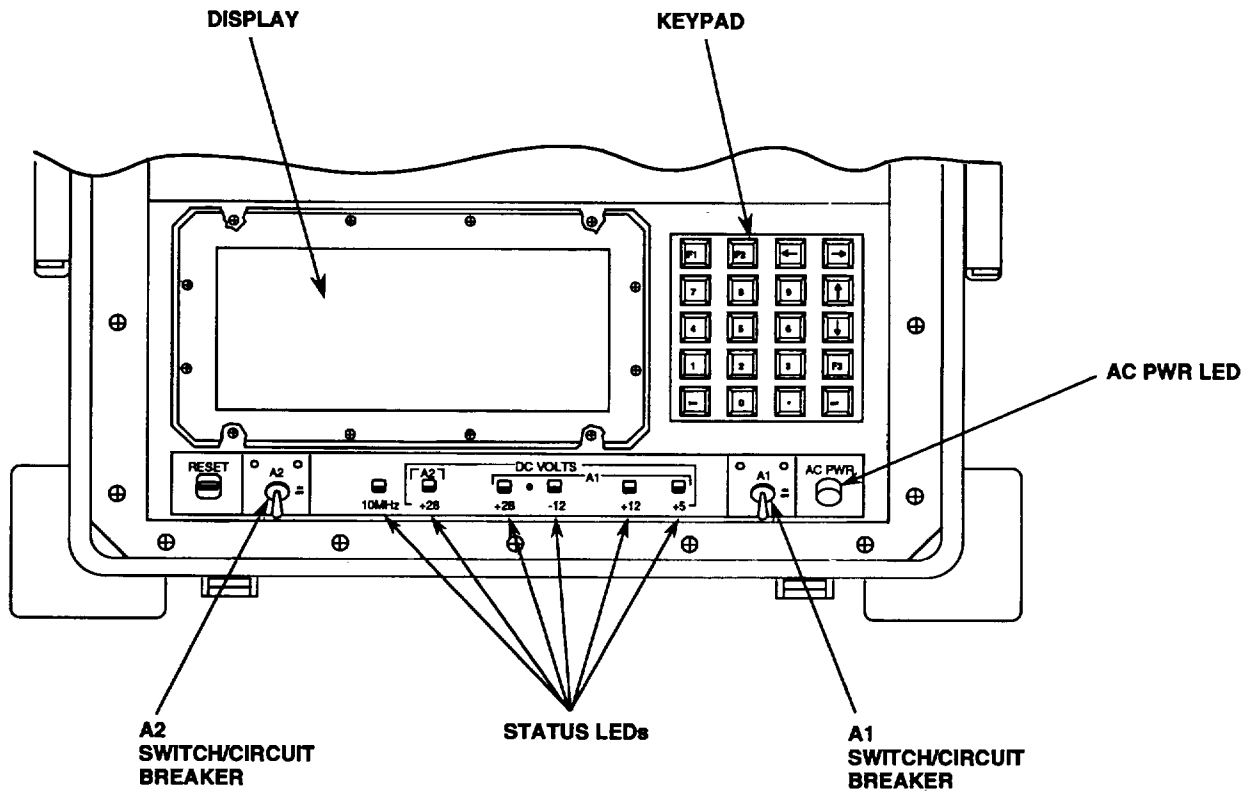
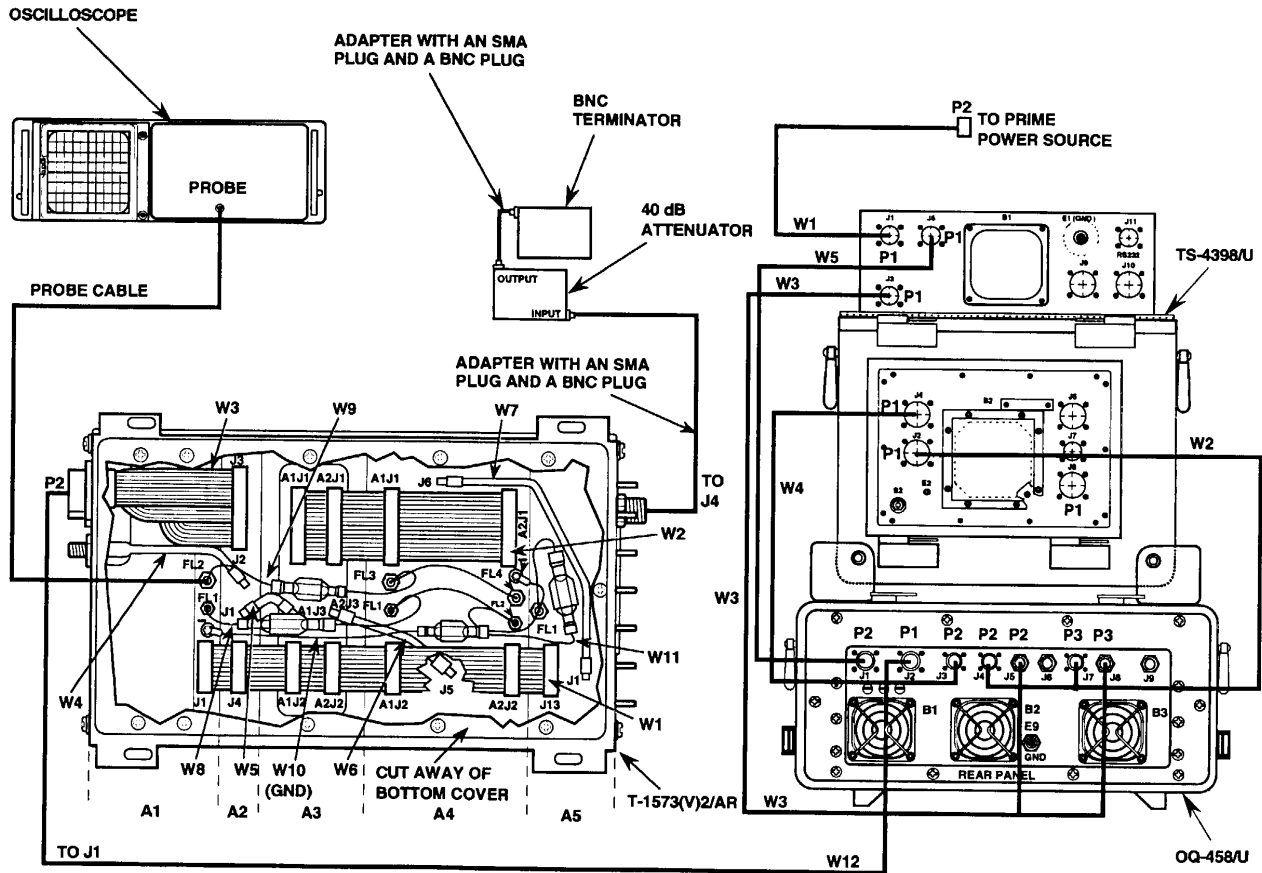
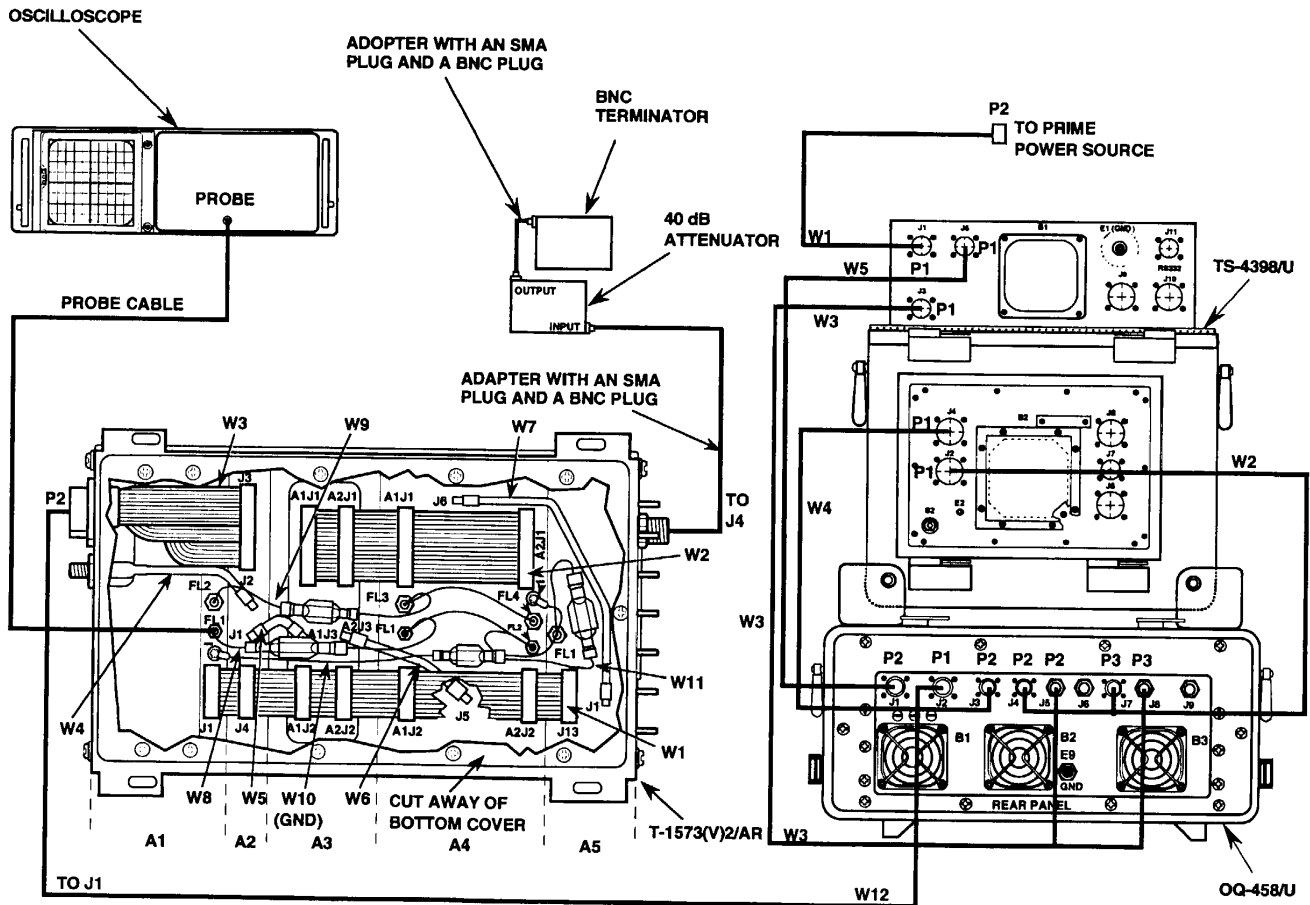
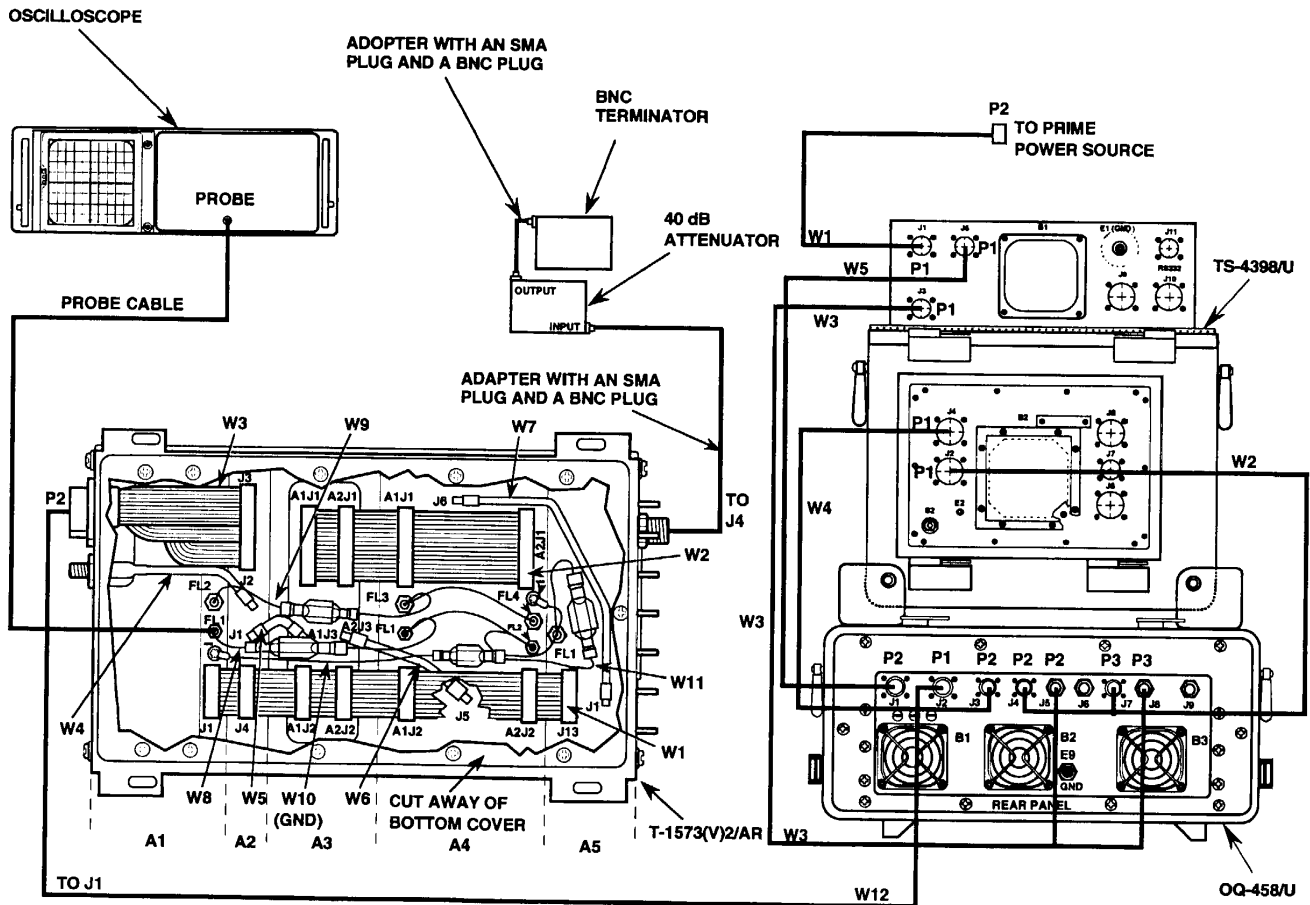

FIGURE 5-32. TS-4398/U CONTROLS AND INDICATORS.
FIGURE 5-33. T-1573 (V) 2/AR POWER CONVERTER MODULE TEST INTERCONNECTIONS.
FIGURE 5-34. T-1573 (V) 2/AR POWER CONVERTER MODULE A1A2FL2 TEST INTERCONNECTIONS.
FIGURE 5-35. T-1573 (V) 2/AR POWER CONVERTER MODULE A1A2FL1 TEST INTERCONNECTIONS.
All cables used during the power converter module test are found in cable assembly case CY-8676/U unless otherwise noted. The interconnections for the test are shown in figures 5-33 through 5-35. Figure 5-33 shows the power converter module test interconnections. Figure 5-34 shows the power converter module A1A2FL1 test interconnections. Figure 5-35 shows the power converter module A1A2FL2 test interconnections. The test controller TS-4398/U controls and indicators used during the test are shown in figure 5-32.
24.	Attach a probe from the oscilloscope to A1A2FL2 (see figure 5-34).